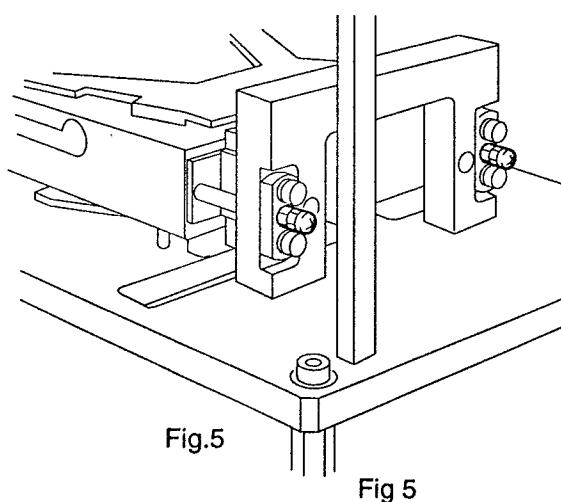

Fig 5
Step 6. Attach the force motor assembly to the alignment fixture (2 screws on the front, Fig 5 and 4 on the bottom, Fig 6).